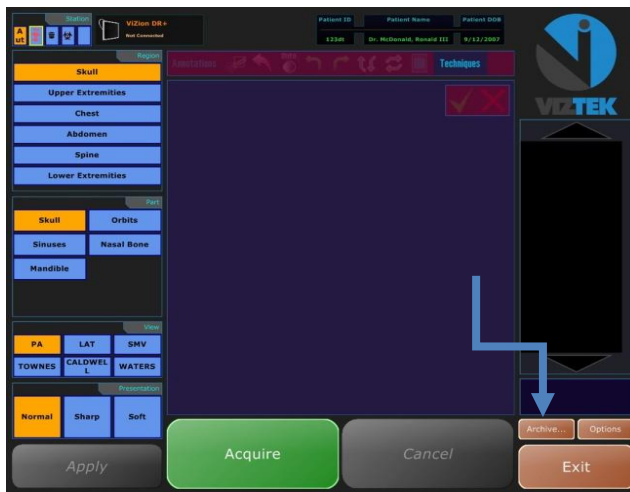

Figure 6
5. Select **Archive** from the Acquisition Interface Screen (Opal UAI). **Figure 6**